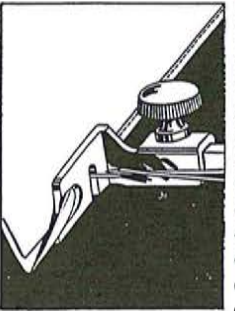

Fig. 38. Making a Hemmed Seam (First Operation)
See Figs. 38 and 39
1. When making this seam, the garment must first be fitted and edge of material trimmed, allowing for about $\frac{1}{8}$ inch seam. Insert the two edges of material, right sides together, in hemmer in same manner as a single hem, as shown in Fig. 38. If material is bulky, place edge of upper piece of material about $\frac{1}{8}$ inch to left of edge of under piece.